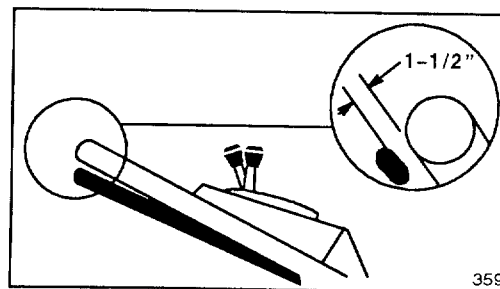

Figure 27
3. **CHECK ADJUSTMENT**—Adjustment is correct when control bar is about 1-1/2 inches from handle (Fig. 27) and wheels start to turn freely.